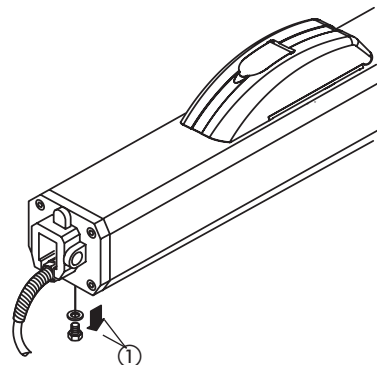

Fig. 11
Re-attach the operator to the mounting brackets. Once the operator is mounted and level, remove the vent screw from the bottom of the valve body (Fig. 11, ref ①). Use a 3mm hex wrench.